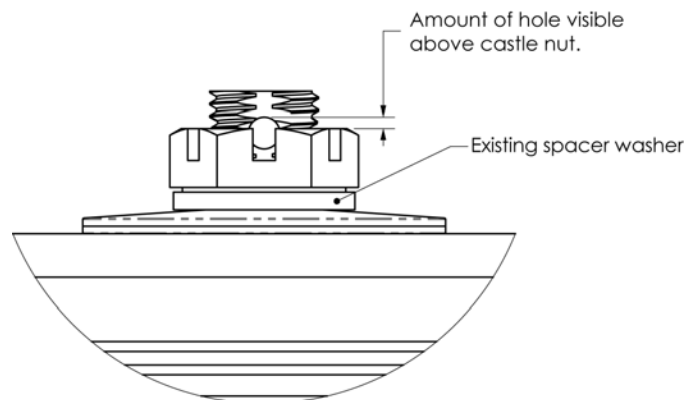

Figure 3-2. Castle Nut Detail Drawing
- 3) If more than half of the cotter pin diameter is above the nut castellation (see Figure 3-2), install the extra spacer washer under the nut. If less than half of the cotter pin diameter is above the nut castellation, the extra spacer washer is not needed, proceed with normal slip-clutch adjustment. If the existing spacer washer prevents the cotter pin from being installed, the existing spacer washer can be removed.